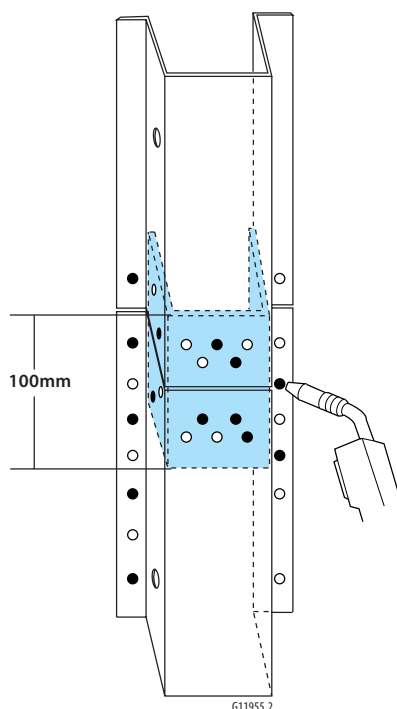

Figure 5-2:
4. Prepare mating surfaces and position the backing plates with 50mm (2 inches) of the backing plate exposed, and plug weld. Position the service part to overlap the exposed 50mm (2 inches) of the backing plate, check fit using three-dimensional measuring equipment, and plug weld accordingly (figure 5-2).